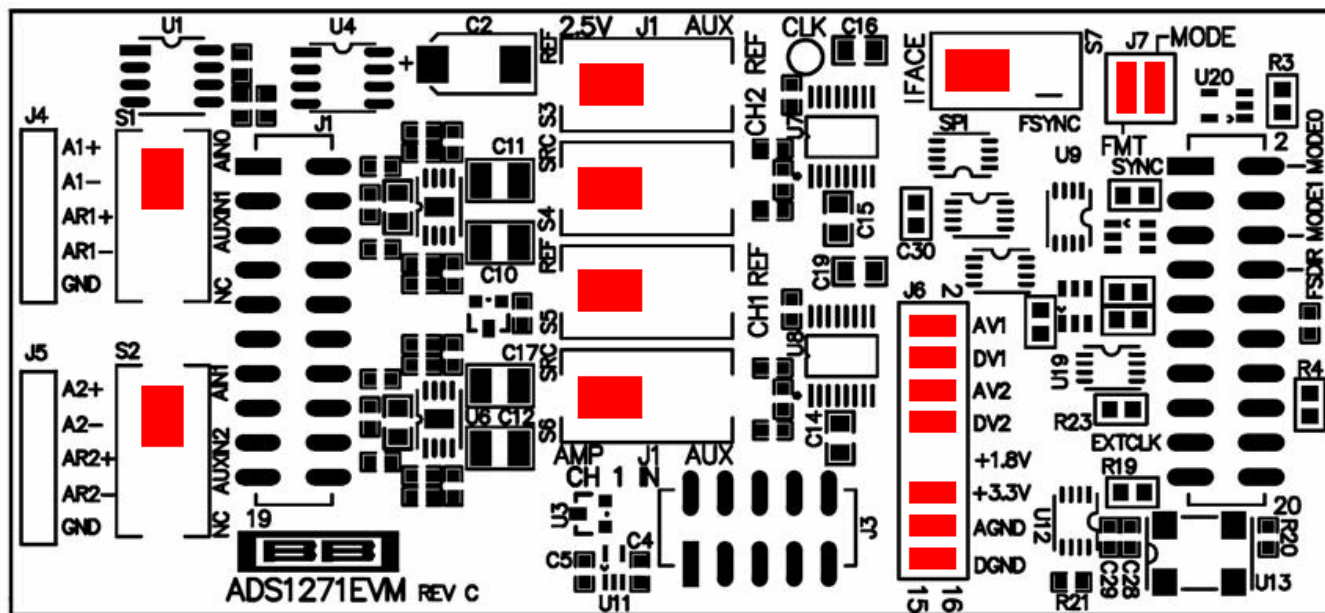

Figure 1. ADS1271EVM Default Configuration
Figure 1 shows the jumpers found on the EVM and locations of *left*, *middle* and *right* for switch settings in the following discussion.
1. Verify that the jumpers on the ADS1271EVM are as shown in Figure 1 (note that these settings are the factory-configured settings for the EVM).